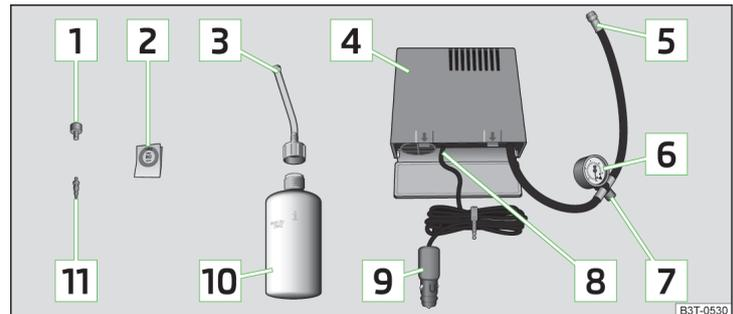

Fig. 183 Principle sketch: Components of the breakdown kit
Components of the set » Fig. 183
- > Stick the appropriate sticker **2** » Fig. 183 on page 209 onto the dashboard in the driver's field of view.
- > Shake the tyre inflator bottle **10** » Fig. 183 on page 209 vigorously several times.
- > Screw the air compressor tyre inflation hose **5** » Fig. 183 on page 209 firmly onto the tyre valve.